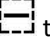

**Figure 2.61. Schematic View Shows Split Module**
2. Click **OK**. The schematic block for the split module in red appears in the Schematic view (Figure 2.61).